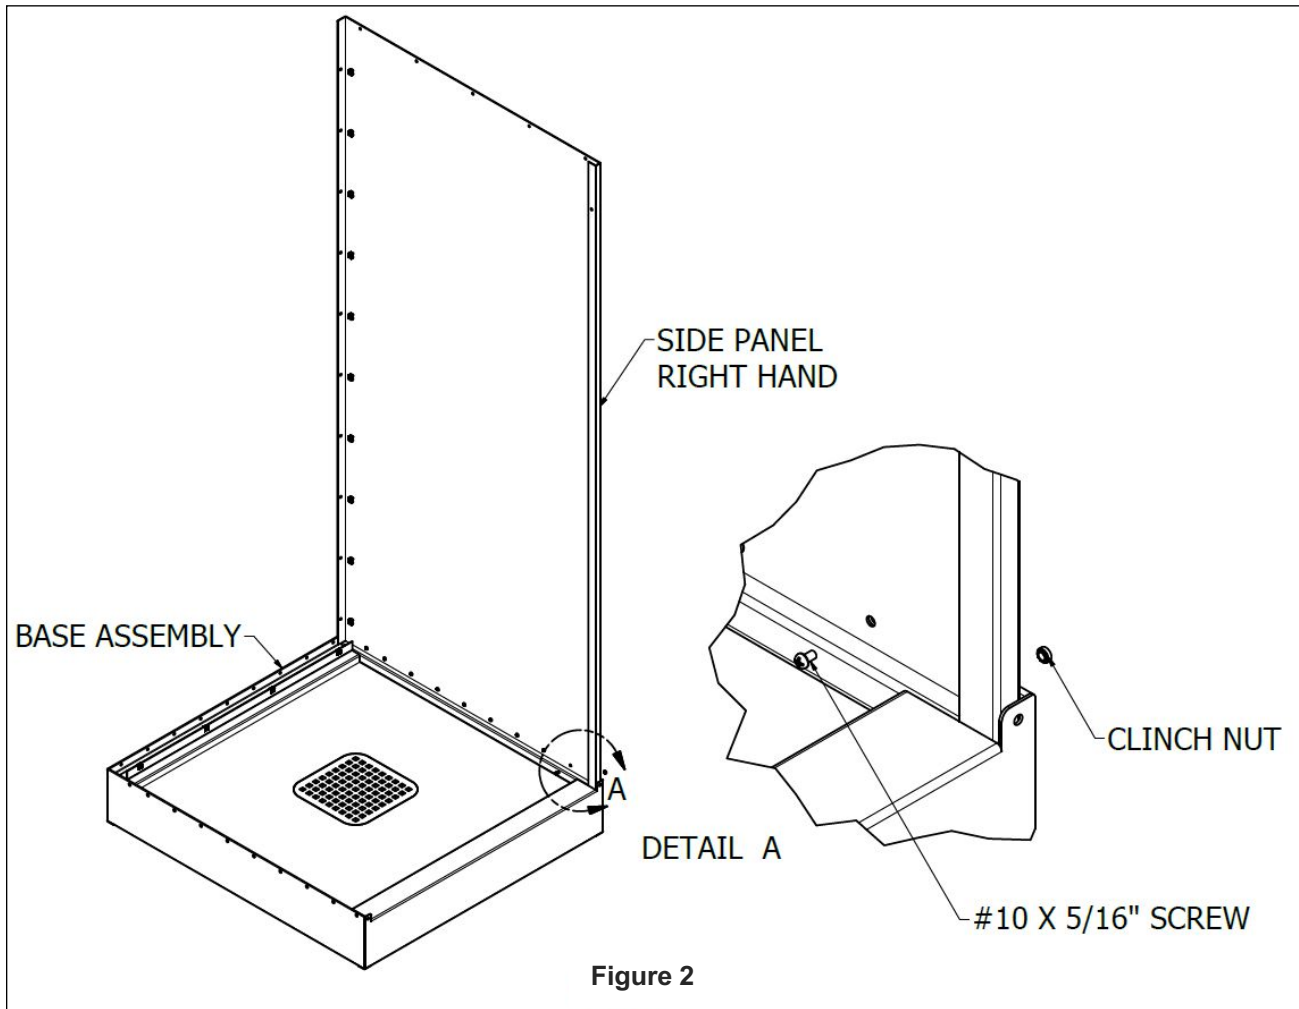

Figure 2
**Note:** Position scored end of clinch nut toward screw. Clinch nut should recess onto opening along base bottom sides. Refer to Figure 2.